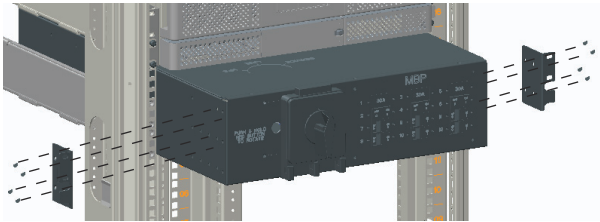

Figure 6. Install the Mounting Ears
9. Install the mounting ears to the BPM using the provided screws (see Figure 6).